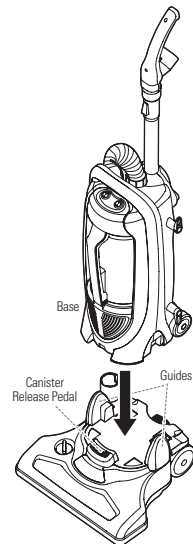

Fig. 7
- Set the body on the top of the base. (Fig. 7)